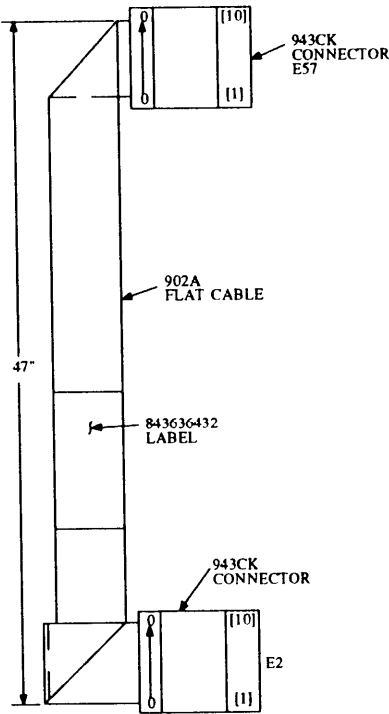

Figure 12-23. ED-1E434, Group 8 Cable
Install the ED-1E434, Group 8 cable(s) (figure 12-23) from **E57** on the module control (01) backplane to connector **E2** on the ZAEY2 circuit pack (ED-1E469, Group 3 Extended MAAP Bracket) for each central module associated with RMI as shown in table 12-5. This cable is not required for an unduplicated system.